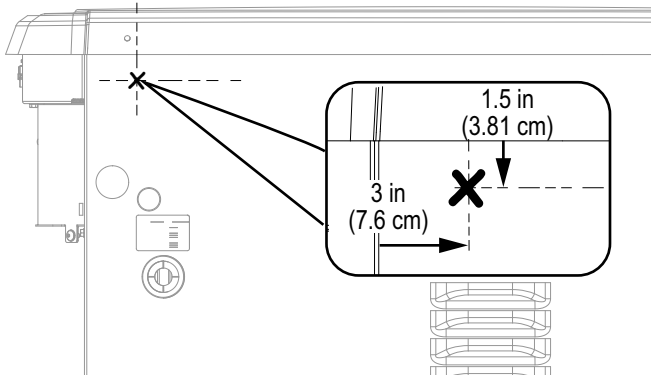

Figure 4 - Prepare Rear Panel
1. See Figure 4. Measure 1.5 in. (3.81 cm) down from top edge of rear panel and 3 in. (7.6 cm) from left edge of rear panel. Mark an X at this location. This will be the center point for the switch mounting hole.